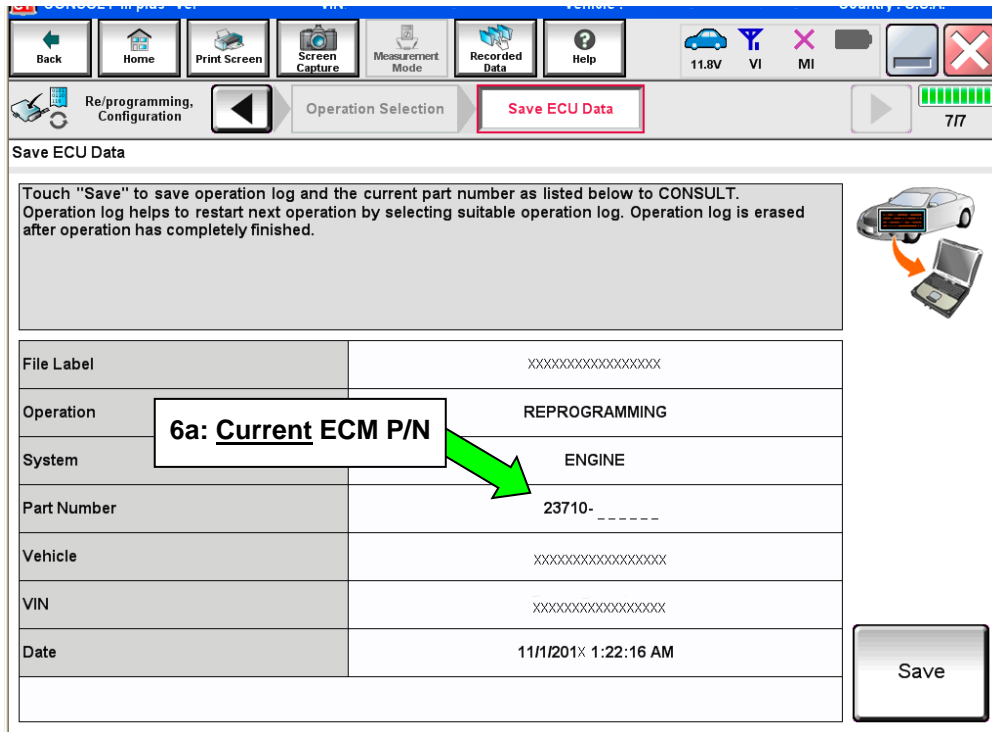

Figure 3
5. Follow the on-screen instructions and navigate the C-III plus to the screen shown in Figure 3 on the next page.
6. When you get to the screen shown in Figure 3, confirm this bulletin applies as follows.